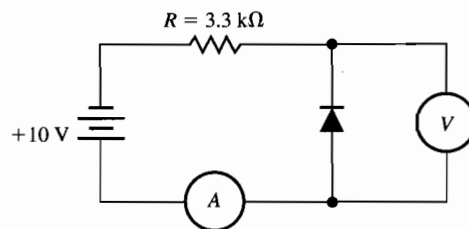

Figure C-16-1
15. For the circuit shown in Figure C-16-1, determine if there is a fault for each of the following conditions. If so, state what the most likely problem is.